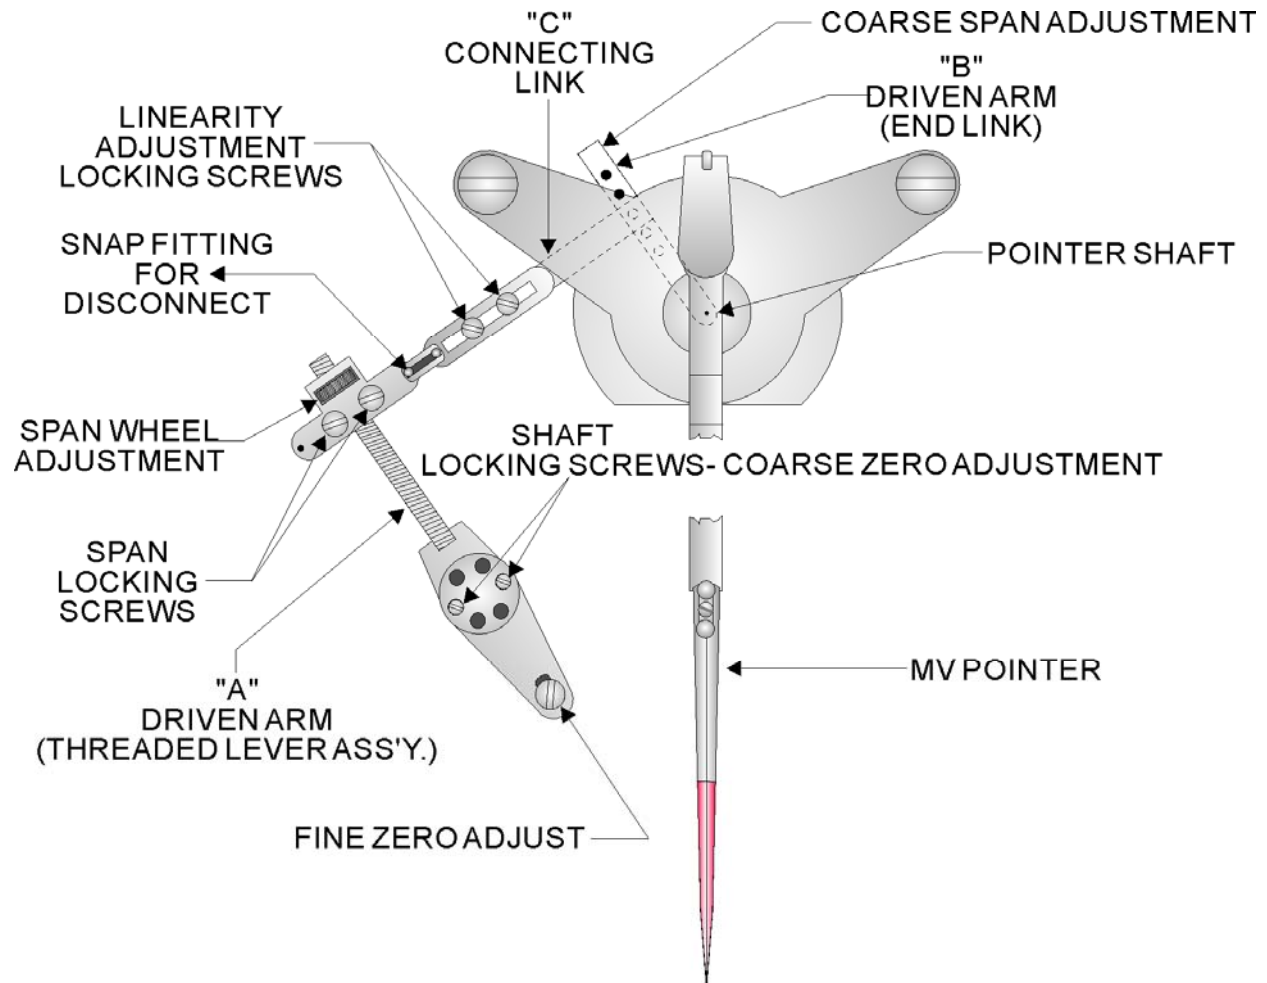

Figure 3-1 - MV Linkage Adjustments
The MV linkage transmits the motion input signal from the measuring system to the MV pointer. This mechanical arrangement, shown in Figure 3-1, contains zero, span and linearity adjustments. The procedure is as follows:
2. If the MV pointer readings are displaced by a fixed percentage over the entire scale, a correction can be made by turning the Fine Zero Adjust Screw shown in Figure 3-1. Before using this adjustment, slightly loosen the two Shaft Locking Screws and
(see Figures 3-1 & 3-9)
10. Disconnect the MV Pointer Linkage at the output of the measuring device by inserting a screwdriver into the snap fitting on the Threaded Lever Arm (Figure 3-1) and apply a half turn to release.